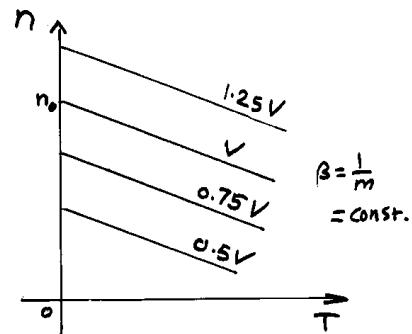

Fig.4.
If the supply voltage V is varied then n_0 in eq.(4) will vary, since $n_0 = \frac{V}{K_e'}$. Hence the characteristic will be shifted as shown in Fig.4 i.e the slop or β will remain unchanged.
However n_0 will change as shown in Fig.4, therefore we can control the speed of the motor by changing the applied voltage V .